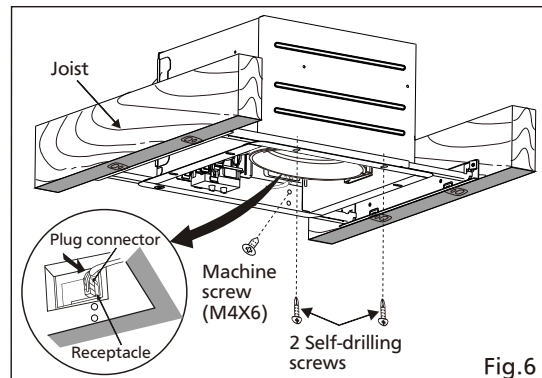

Fig.6
8. Insert fan body and slide into adapter assy with some strength, untill the flange overlaps the Flex-Z Fast™ bracket. Secure the fan body to Flex-Z Fast™ bracket by using 2 self-drilling screws, plug connector to receptacle and secure the fan body to adaptor by using machine screw (M4X6). (Fig.6)